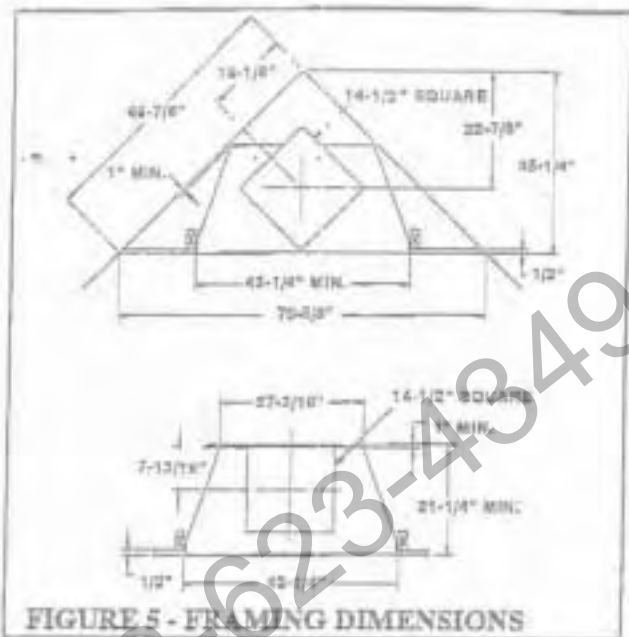

FIGURE 5 - FRAMING DIMENSIONS
Corners should be considered where space is limited or at a premium. A corner-installed fireplace can make use of space that may not normally be used (see Figure 5).
STEP 3: On the ceiling directly above the center of the double-wall pipe, lay out a 14 1/2 inch square hole (use plumb bob) and cut out for chimney exit (see Figure 5, page 3 for dimensions.)